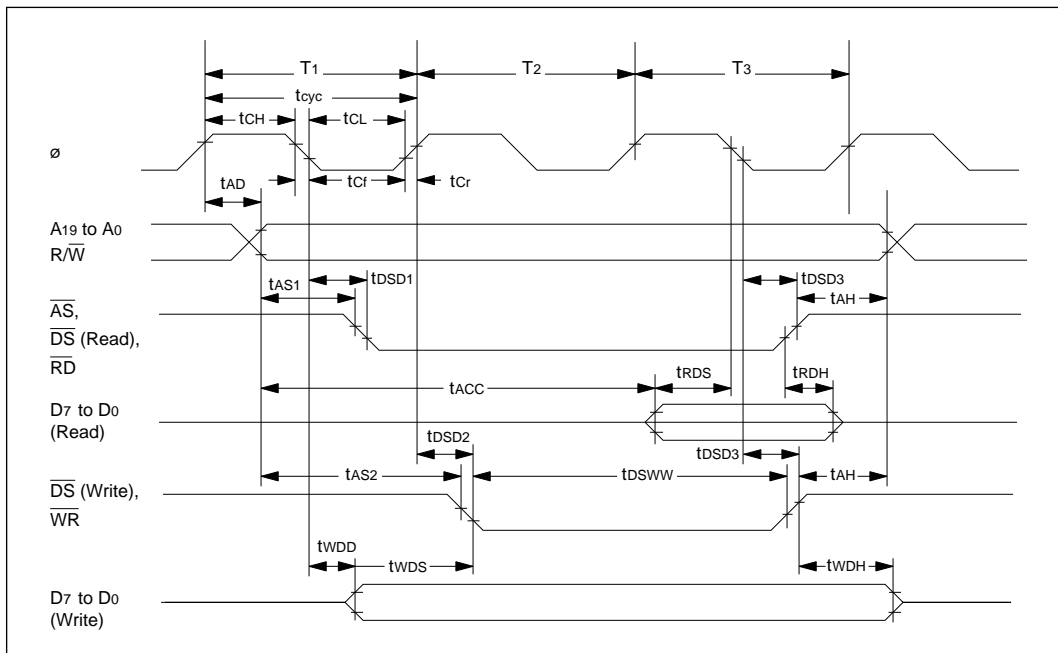

Figure 20-4 Basic Bus Cycle (without Wait States) in Expanded Modes
20.3.1 Bus timing	Figures 20-4 to 20-6